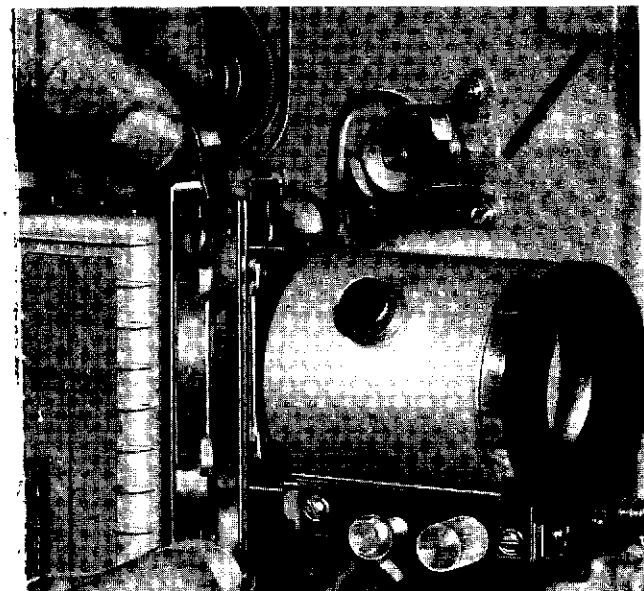

Figure 4-3. Removing the Aperture Plate
**4-12. APERTURE PLATE.** Do not attempt to remove the aperture plate while the projector is running. First remove the pressure plate as instructed in paragraph 4-10. Retract the shuttle by turning the threading knob (figure 1-4). Then remove the aperture plate by grasping the thumb handle at the top of the assembly and pulling upward, then outward, until the aperture plate is free of the mechanism (figure 4-3). With the aperture brush, remove all traces of dirt or caked emulsion from the entire film-contacting surface of the plate. If the aperture brush does not remove every particle of caked emulsion, pour a few drops of pure grain alcohol on a clean cloth and rub the cloth over the aperture plate surface. The alcohol will soften the caked emulsion and make it easier to remove with the aperture brush or with a small stick or toothpick. Be sure to remove accumulated dirt or dust from under the edges of the aperture.